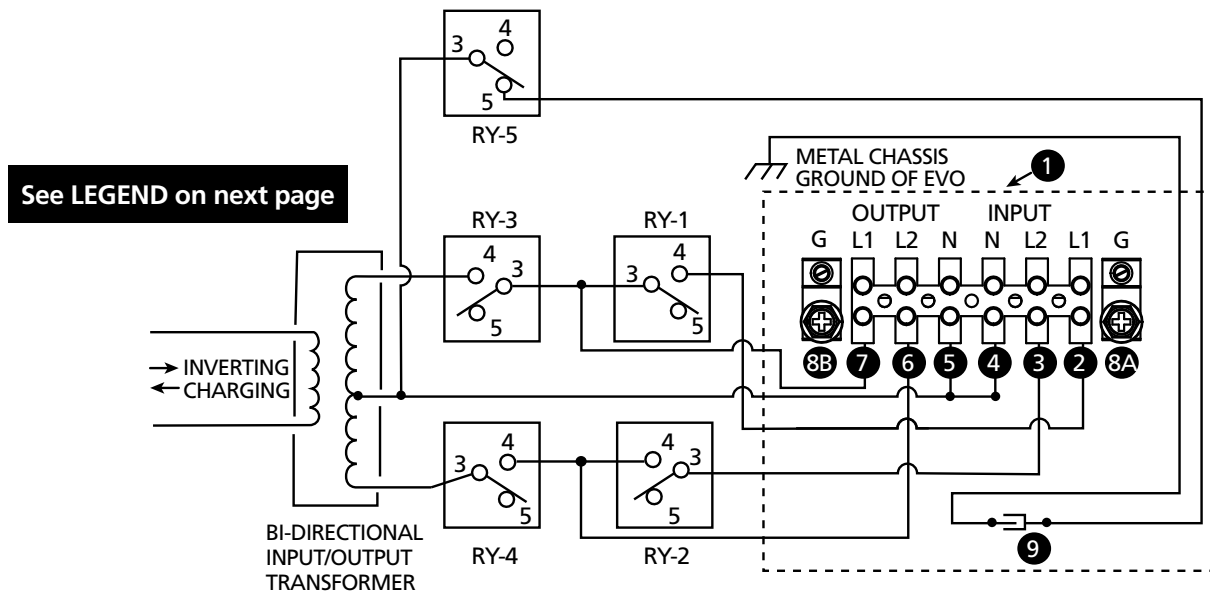

Fig 4.1 Operation of Transfer Relays and Relay for Switching of Bond Between Output Neutral and Metal Chassis Ground
RY-1,RY-2,RY-5.	Transfer Relays (Fig 4.1 & Section 4.5.2)
Transfer Relay Section is used to either feed AC input power from external AC input source (*e.g. Grid/Utility*) to the Battery Charger Section and at the same time, pass through the AC power from the external AC input power source to the load (*As long as the external AC input power is available and is within the programmed limits of voltage and frequency*) or to transfer the load to the Inverter Section (*In case of loss of the external AC input power source or if this source is not within the programmed limits of voltage and frequency*). Typical transfer time is 16 milliseconds from the AC input source to Inverter and <1ms from Inverter to the AC input source. Heavy duty 40A, Transfer Relays [*RY-1 to RY-5, Fig 4.1*] are used for reliable transfer of power.
Refer to the connection diagram at Fig 4.1. Operation is explained in the succeeding Sections 4.5.2(A) to 4.5.2(E)
4.5.2(A) 240VAC Split Phase input from Grid / Utility is available (within the programmed limits of voltage and frequency)
- 240VAC Split Phase input voltage from Input Terminals marked "Input L1" and "Input L2" (2,3 in Fig 4.1) will be fed to the Bi-directional Transformer for charging
- 240VAC Split Phase input voltage will also be by-passed to Split Phase Output Terminals marked "Output L1" and "Output L2" (7,6 in Fig 4.1)
4.5.2(B) 120VAC Single Phase input from Grid / Utility is available (within the programmed limits of voltage and frequency)
- 120VAC Single Phase input voltage from (i) Input Terminals marked "Input L1" (2 in Fig 4.1) and "Input N" (4 in Fig 4.1) or, (ii) 120VAC Single Phase input voltage from Input Terminals marked "Input L2" (3 in Fig 4.1) and "Input N" (4 in Fig 4.1) will be fed to the Bi-directional Transformer for charging
- 120VAC Single Phase input voltage will be stepped up to 240VAC Split Phase voltage by auto-transformer action of the Bi-directional Input / Output Transformer and will be passed through as stepped up 240VAC Split Phase to Output Terminals marked "Output L1" and "Output L2" (7,6 in Fig 4.1)
4.5.2(C) 240VAC Split Phase or 120VAC Single Phase input from Grid / Utility Fails
- Internal Inverter Section will be activated. 240VAC Split Phase output voltage from the Bi-directional Input / Output Transformer will be fed to the Split Phase Output Terminals marked "Output L1" and "Output L2" (7,6 in Fig 4.1)
In EVO-4248SP Inverter Charger, both the Input / Output Neutral Terminals (4,5 in Fig 4.1) are connected to the same common Neutral of the Bi-directional Input / Output Transformer (Fig 4.1). This unit can be operated as follows:
- **As a stand-alone inverter (with no connection to the Grid / Utility):** The Input /Output Neutral Terminals (4,5 Fig 4.1) will get connected to the metal Chassis Ground of the unit through the normally closed (NC) contacts 3,5 of the "Output Neutral to Chassis Ground Bond Switching Relay" (RY-5 in Fig 4.1) and the mated Male / Female Quick Disconnect (9, Fig 4.1) located in the AC Wiring Compartment (1, Fig 2.3)
- **As an Off-Grid Inverter Charger (with input connected to the Grid / Utility):** When AC input from the Grid / Utility is available, the unit operates in "Charging Mode" - the batteries are charged and the AC input is passed through to the AC loads. The "Output Neutral to Chassis Ground Bond Switching Relay" (RY-5 in Fig 4.1) will be ON, its (NC) contacts 3,5 will open and will disconnect the bond between the AC output Neutral (5, Fig 4.1) and the metal Chassis Ground of the unit. The Input / Output Neutrals (4,5 in Fig 4.1) of the unit will now be connected to the Earth Ground through the Grounded Neutral of the Grid / Utility Electrical Panel
4.5.2(E) Disabling Internal Neutral to Chassis Ground Bond: In some applications, the AC Output Neutral (5, Fig 4.1) may be required to remain isolated from the metal Chassis Ground of the unit at all times. For this, the automatic Neutral to Ground bonding (in Inverting Mode) can be disabled by disconnecting the Male / Female Quick Disconnect (9, Fig 4.1) located in the AC Wiring Compartment (1, Fig 2.3)
LEGEND for Fig 4.1